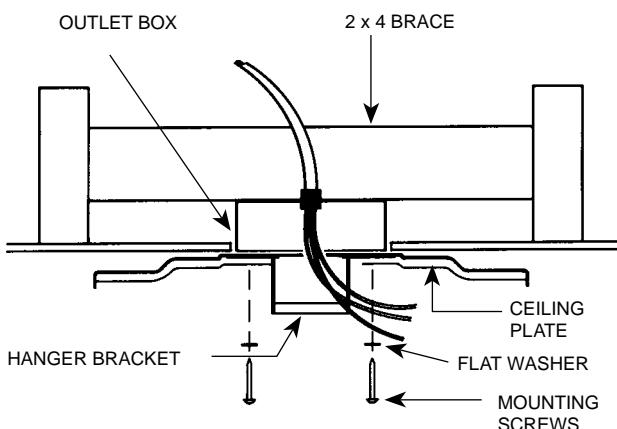

FIGURE 6
- B. Thread the lead wires through the opening in the top of the ceiling plate and through the opening in the side of the hanger bracket. See Figure 6.
Using the two center slots, attach the ceiling plate to the 2 x 4 brace supporting the outlet box. Use (2) #10 wood screws 3" long for mounting through the outermost holes. Drill two pilot holes 9/64" diameter in the 2 x 4 brace for mounting screws. See Figure 6.